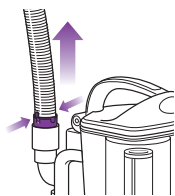

Fig. 25
- Detach the stretch hose from the back of the detachable canister by squeezing the tabs together and pulling up. (Fig. 25) Straighten out the hose and look inside for blockages.